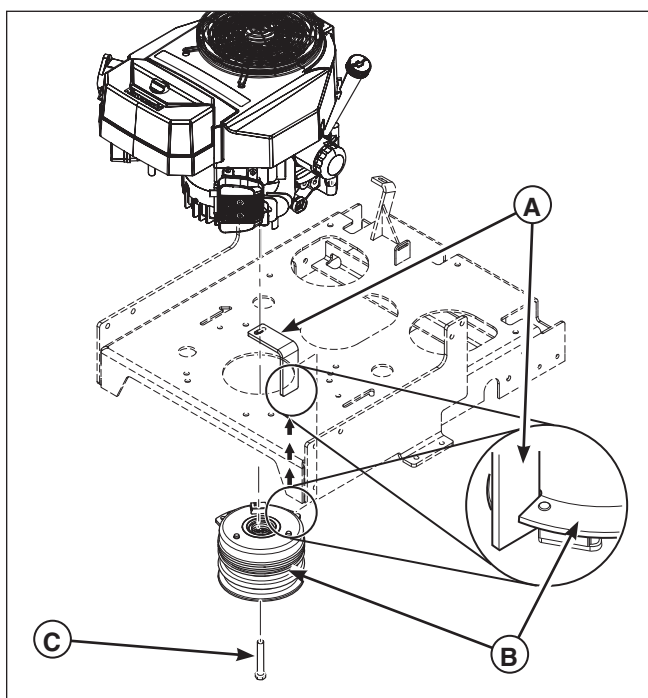

Figure 36. Remove the PTO Clutch
3. Loosen and remove the crankshaft bolt (**C**, **Figure 36**) and the PTO clutch (**B**) from the engine crankshaft.
**NOTE:** Make sure that the slot in the PTO clutch lines up with the PTO clutch mounting tab (**A**, **Figure 36**) underneath the engine deck.